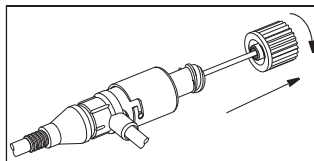

Figure 2
3. To use the SLIC for intravenous infusion, remove the blue-capped SLIC obturator by twisting counter clockwise. Hold the infusion port to maintain positive lock to hemostasis valve housing. Pull the SLIC obturator from the infusion catheter (refer to Figure 2). Immediately attach desired line to Luer-Lock hub.